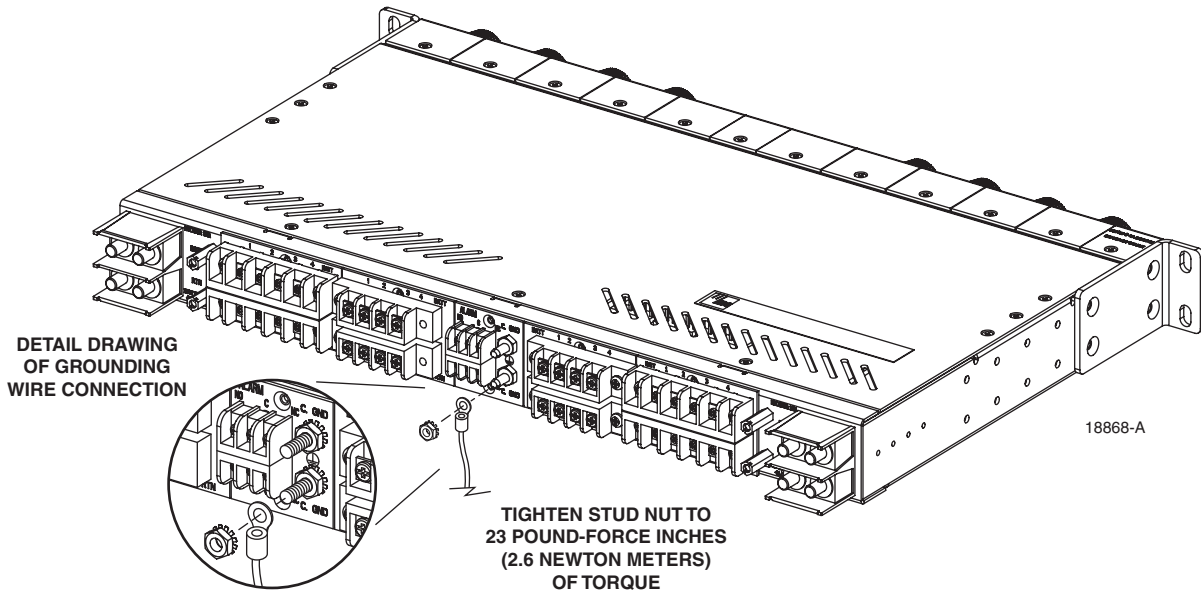

Figure 15. Chassis Ground Connections
3. Locate the C GND (chassis ground) studs at the rear of the panel as shown in Figure 15.